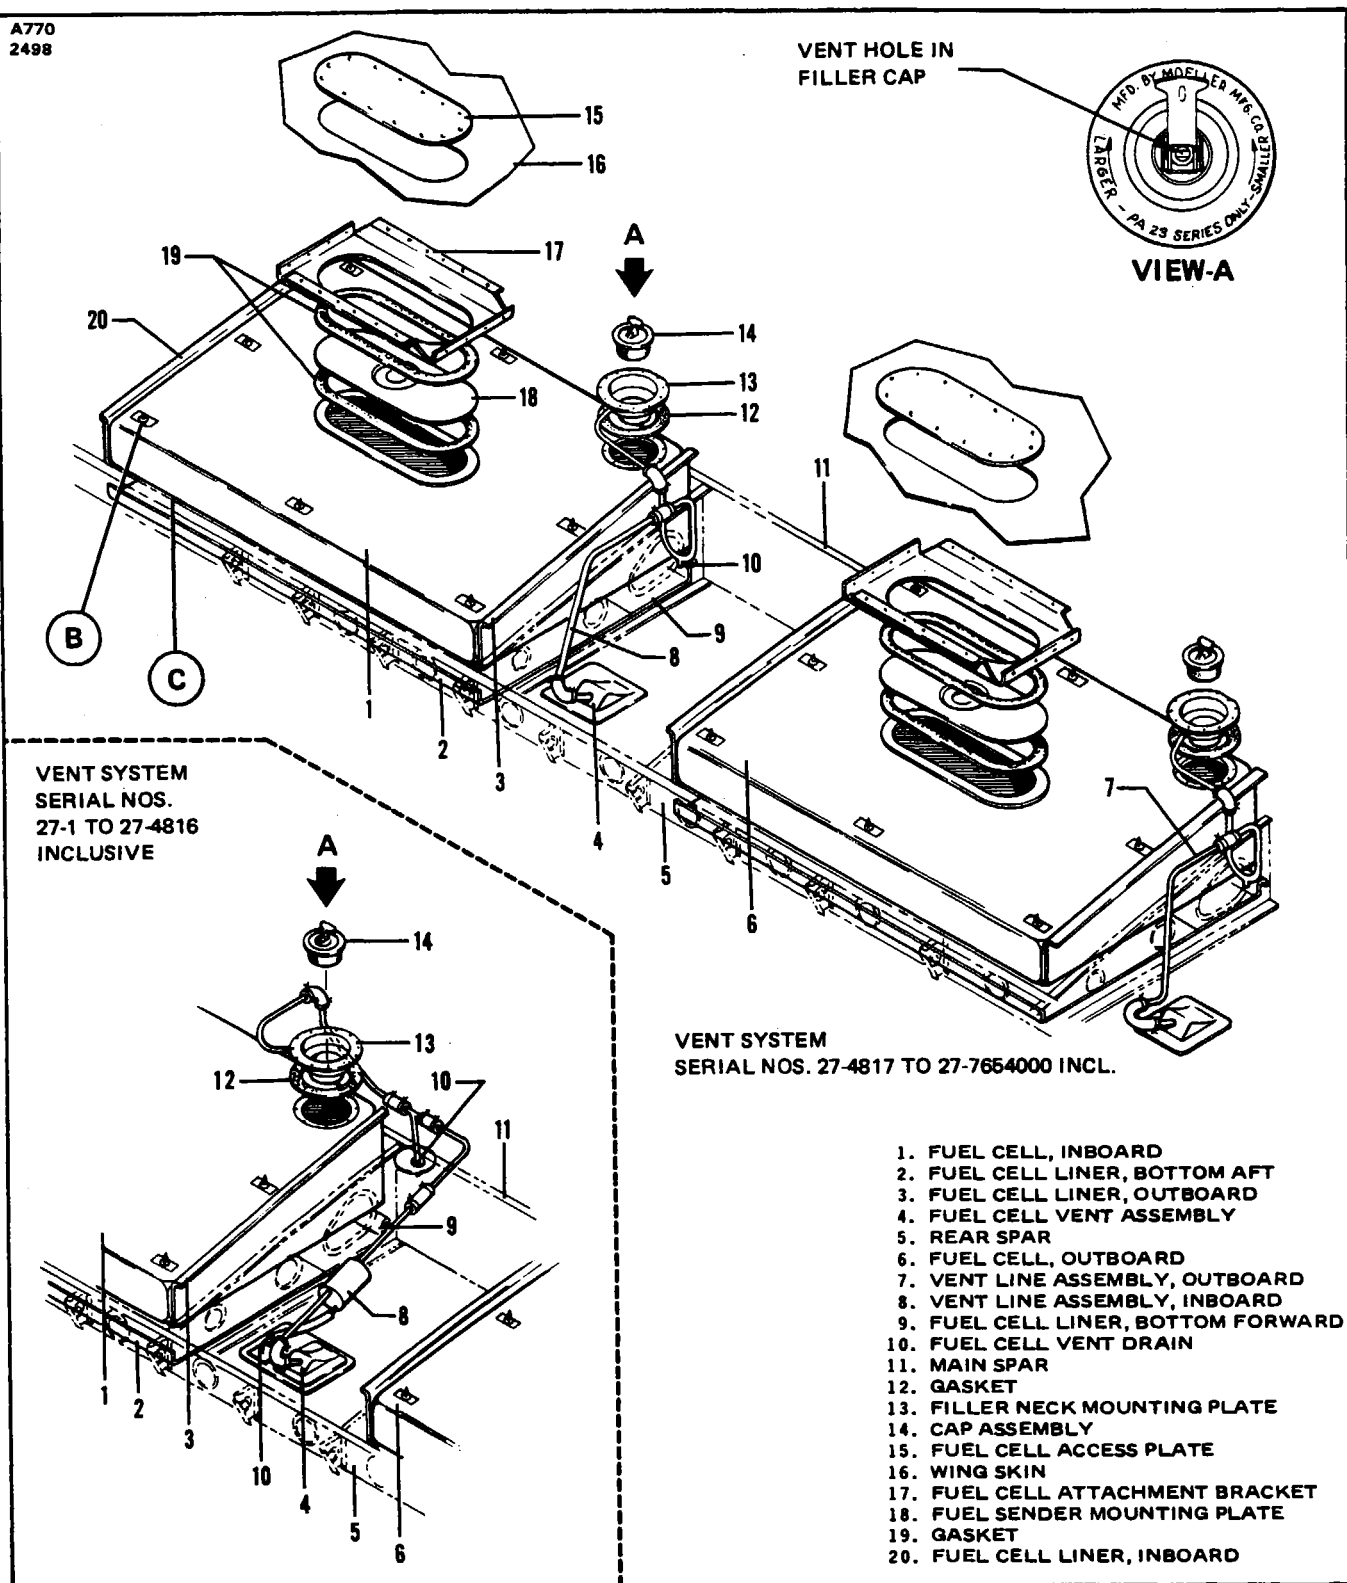

Figure 9-9. Fuel Cell Installation and Vent System
9-5. REMOVAL OF FUEL CELLS. (Refer to Figure 9-9.)
- (1) If leaks appear, repair per Paragraph 9-14, clean per Paragraph 9-7, and reinstall per Paragraph 9-11 or replace with new cells.
- (2) If no leakage appears, clean and reinstall cell per Paragraph 9-7 and 9-11.
- (c) Check condition of fuel cap assemblies especially the rubber expandable seal portion. Caps showing indications of deterioration or hardening (of seal) should be replaced. On models with Serial Nos. 27-1 to 27-7654000 inclusive, the caps have holes which act as vents for the fuel system. In addition the fuel cells have drain tubes that are attached to the filler neck plate assembly just below the filler cap and gasket. With later models, Serial Nos. 27-7654001 and up, the caps do not have vents. The venting tube is attached lower down in the filler neck assembly, underneath a retainer and gasket. (See Figures 9-9 and 9-10.)
9-11. INSTALLATION OF FUEL CELL. (Refer to Figure 9-9.)